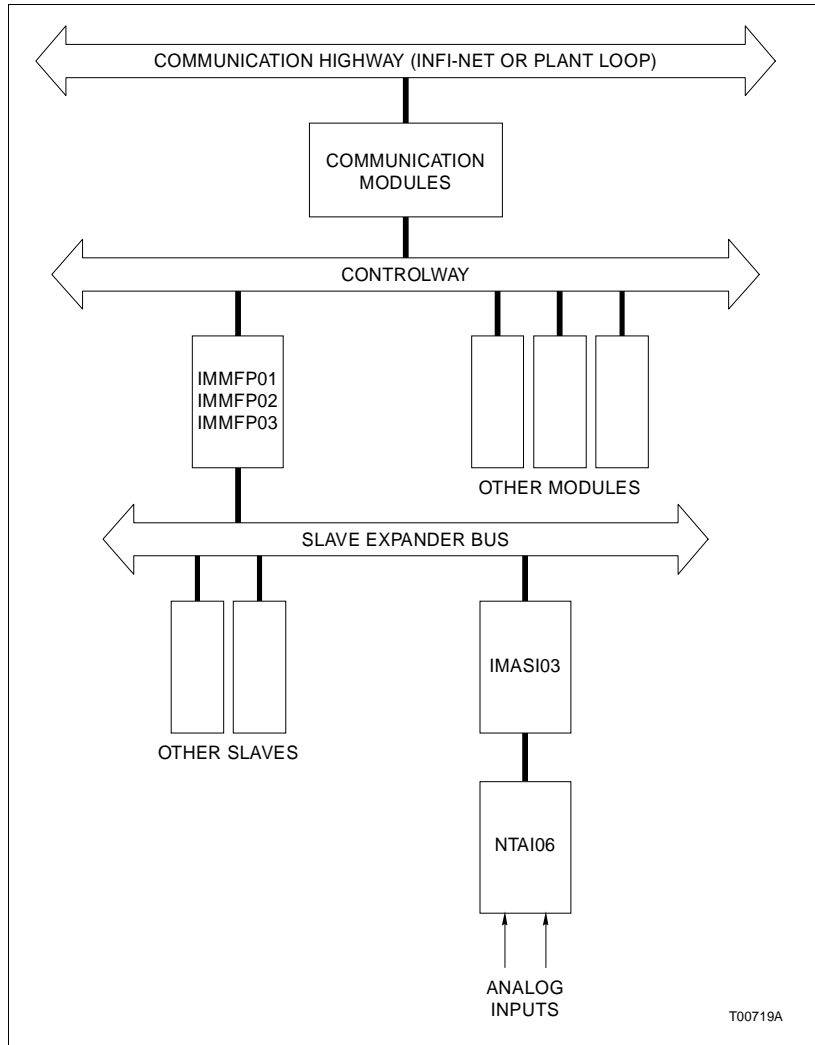

Figure 1-1. Application Example for NTAI06
The NTAI06 is a single printed circuit board that mounts in a NFTP01 Field Termination Panel. The termination unit (TU) has two connectors P1 and P2. A single Y-shaped cable connects to P1 and P2 on the termination unit. The other end of the cable connects to the slave module. The terminal blocks for field wiring are on the TU. Jumpers on the NTAI06 are set to match the type of input signal. Figure 1-1 shows an application example for the NTAI06.